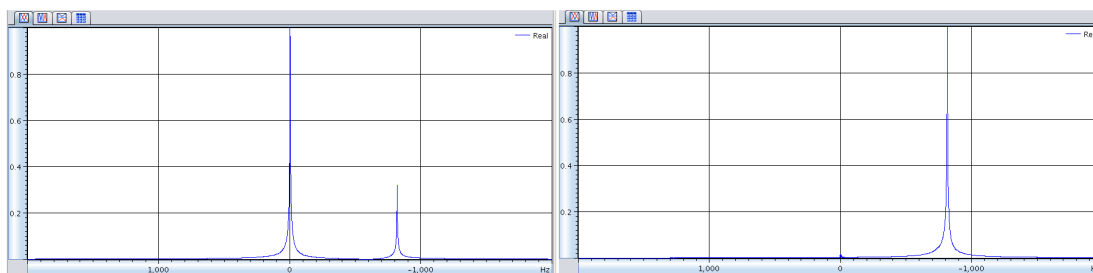

Figure 2.89: Spectrum left: no WS, spectrum right: with WS
The water suppression (WS) should reduce the height of the water peak to an amplitude similar or below that of the metabolite peaks. This can be seen when comparing the spectrum left with no WS and right with WS in Figure 2.89 [▶ 553].